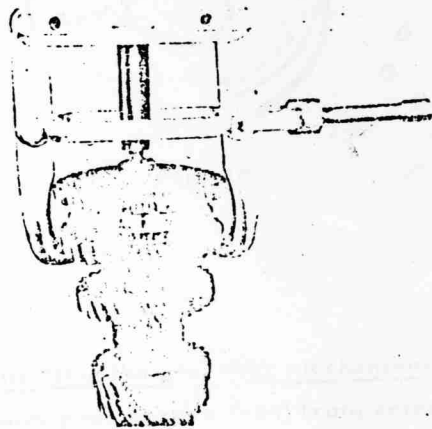

Fig. 7
2. Remove selector forks from gear shafts. Pull the 1 st speed gear (412) together with the synchronizer from the output shaft, using a two-legged withdrawing tool (Fig. 7). Any further dismantling of the output shaft can only be carried out with a hydraulic press.